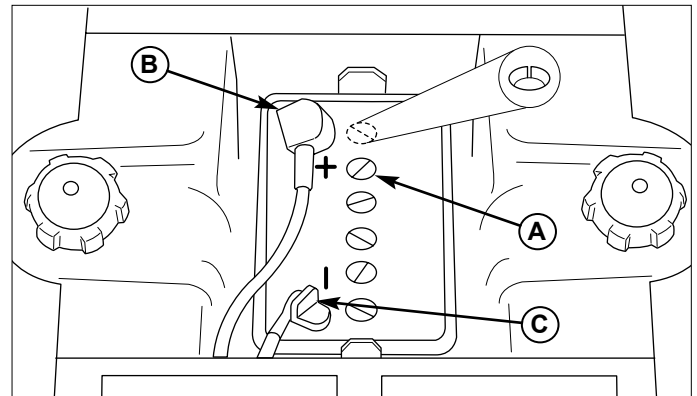

Figure 14. Battery Compartment
3. Remove the battery filler cap (A, Figure 14). Fluid must be even with the split ring full mark. If not, add distilled water.
1. Disconnect the cables from the battery, negative cable first (C, Figure 14).
4. Reinstall the battery and reattach the battery cables, positive cable first (see B, Figure 14)